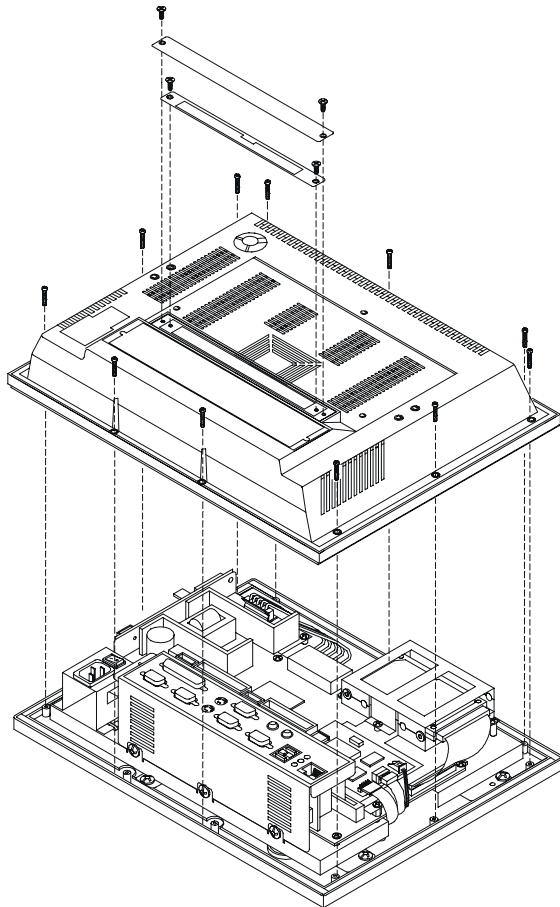

Figure 2-1: Removing the PPC-105's rear panel
2. Remove the rear protective cover (see Figure 2-1)